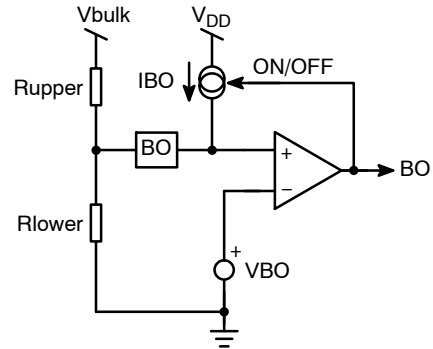

Figure 40. The Internal Brown-out Configuration with an Offset Current Source
The Brown-Out circuitry (BO) offers a way to protect the resonant converter from low DC input voltages. Below a given level, the controller blocks the output pulses, above it, it authorizes them. The internal circuitry, depicted by Figure 40, offers a way to observe the high-voltage (HV) rail. A resistive divider made of  $R_{upper}$  and  $R_{lower}$  brings a portion of the HV rail on Pin 5. Below the turn-on level, the  $28\ \mu\text{A}$  current source IBO is off. Therefore, the turn-on level solely depends on the division ratio brought by the resistive divider.